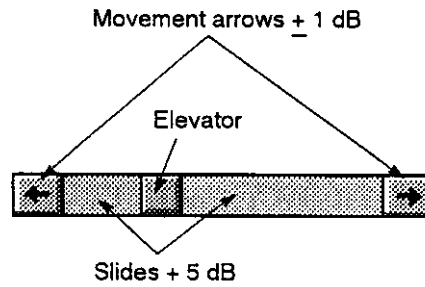

Figure 49. Attenuator Slide Bar Description.
- b) Change the **IF Attenuator** and **Test Attenuator** to a non-zero setting and then back to zero. See Figure 49 for attenuator movements.